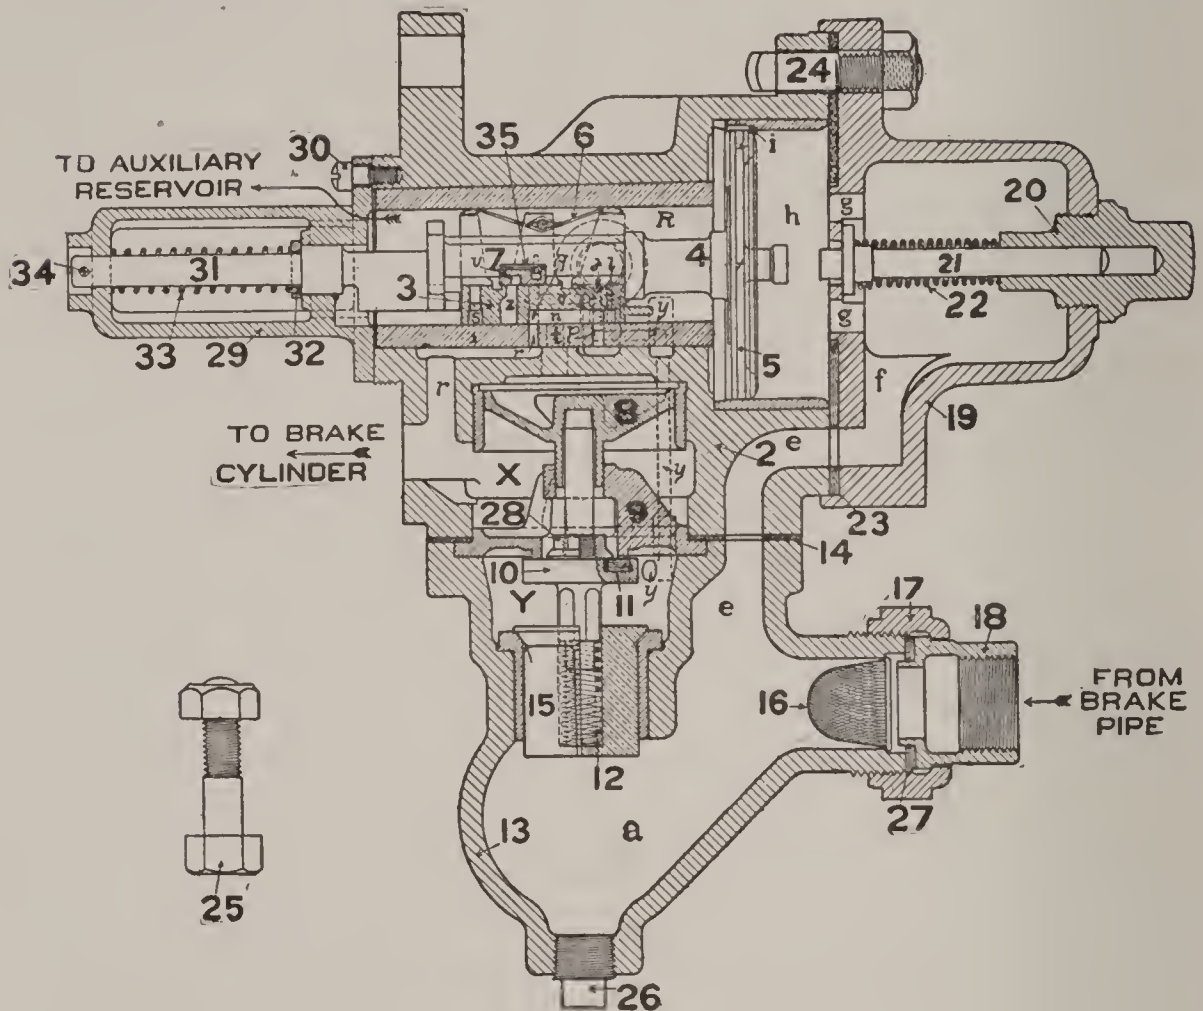

Fig. 6.
**List of Parts.** Fig. 6 shows a vertical cross section of this valve, and the names of the various parts as follows:
**Retarding Device.** Referring to Fig. 6 the branch from the brake pipe connects at union swivel 18. The retarding device bracket 29 projects into the auxiliary reservoir, and by its construction free communication exists between the auxiliary reservoir and chamber R, in which slide-valve 3 and graduating valve 7 operate. The retarding device stem 31, through its extension into chamber R and the action of its spring 33, forms the stop against which the stem of piston 4 strikes when it moves to release position, from right to left in the cut, it being shown in full release.
**Openings.** The opening marked "To Brake Cylinder" comes opposite one end of the tube which leads through the auxiliary reservoir to the brake cylinder, when the valve is bolted in place on the end of the auxiliary reservoir. This opening in the triple valve leads to chamber X over the emergency valve to and under emergency piston 8, it also leads through port *r* to the seat under slide-valve 3. The emergency piston 8 and the parts below it are the same as in the older quick action freight triple valve. Port *y* (shown by dotted lines) connects chamber Y, between check-valve 12 and emergency valve 10, with port *y* in the valve-seat (Fig. 6).
With this explanation and by occasional reference from the diagrammatic views to those in Fig. 6, the same ports being lettered alike, a clear understanding will be obtained of both the operation and actual arrangement of the ports of the triple valve.